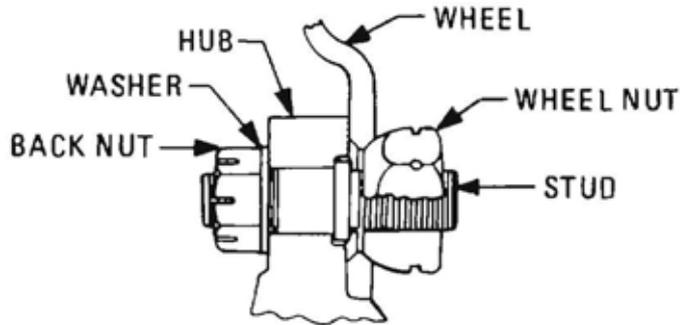

Figure 156 Front Wheel Securing Nut and Stud
**258.** The wheels are mounted on studs on the axle hubs and secured in place by means of wheel nuts (Figures 156 and 157). In the case of the dual rear wheels, the inner wheel is positioned on the hub studs and secured by inner wheel nuts. The outer wheel is installed onto the inner wheel nuts with the dished side of the rim facing out and secured by the outer wheel nuts (Figure 158).